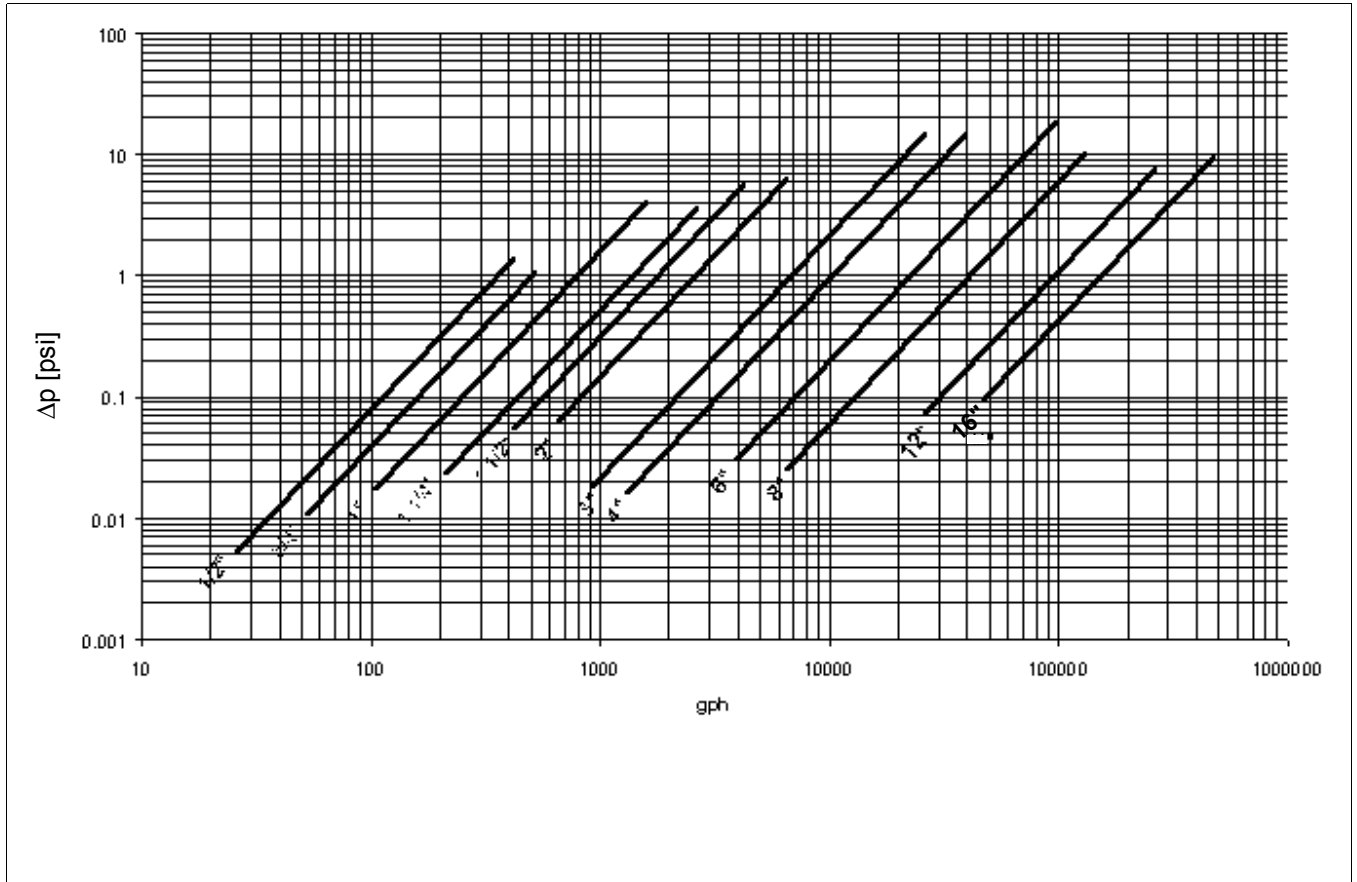

FIGURE 2-11 PRESSURE DROP, WATER (@ P = 8.34 LB/GAL)
See Figure 2-11 for water (ρ = 8.34 lb/gal)
Δp = Pressure drop water [psi] (from Figure 2-11)
2. Using Figure 2-11, find pressure drop at Q_v = 18000 gph and ρ = 7.50 lb/gal